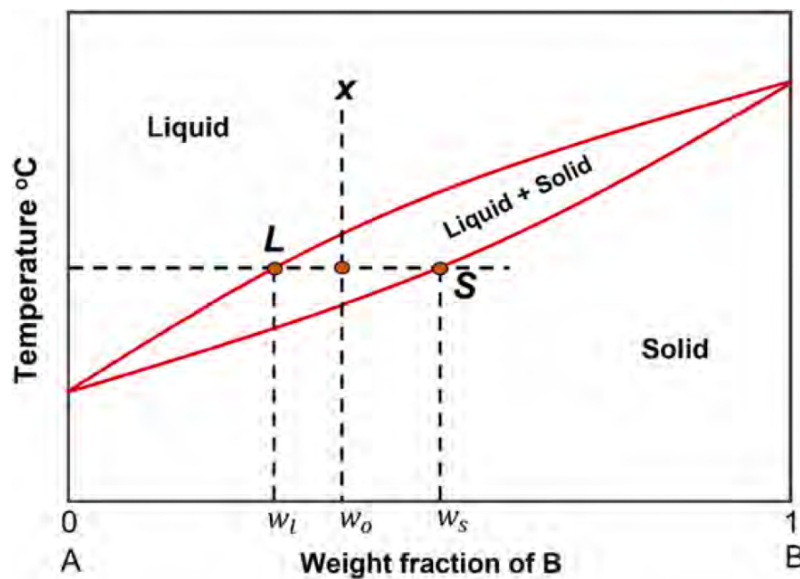

Fig. 2.10: A hypothetical phase diagram of two metals A and B completely soluble in each other.
- **EXAMPLE (FIG 2.10):** FOR A 40WT%B ALLOY AT THE TEMPERATURE SHOWN.